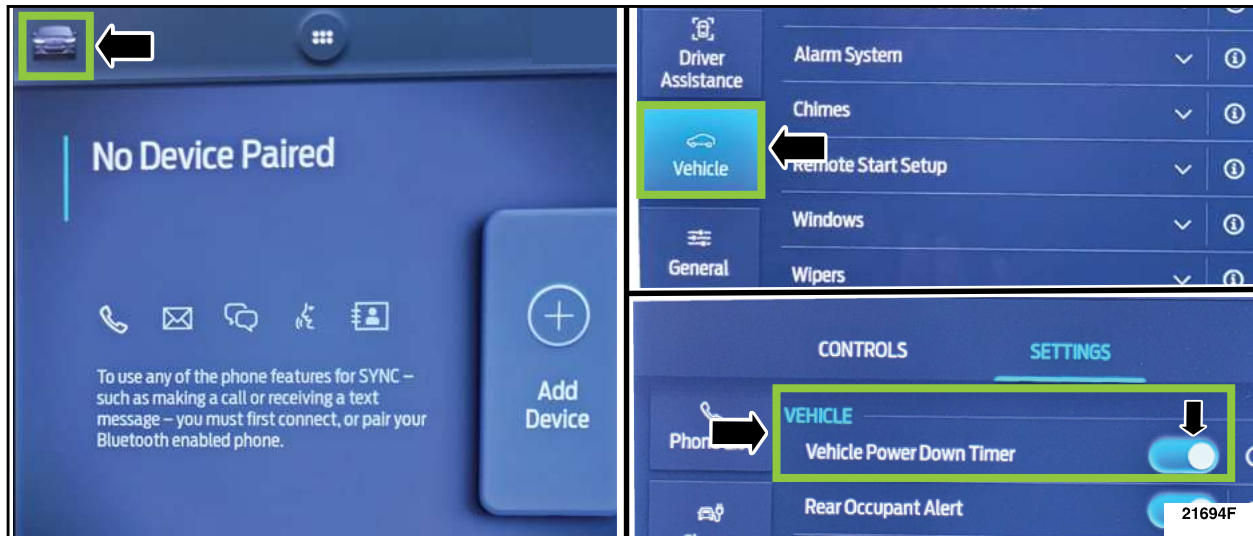

FIGURE 2
- For Mach-E vehicles, from the center display screen press the vehicle icon in the upper left corner > select the Vehicle setting tab > and turn **OFF** the **Vehicle Power Down Timer**. See Figure 2.